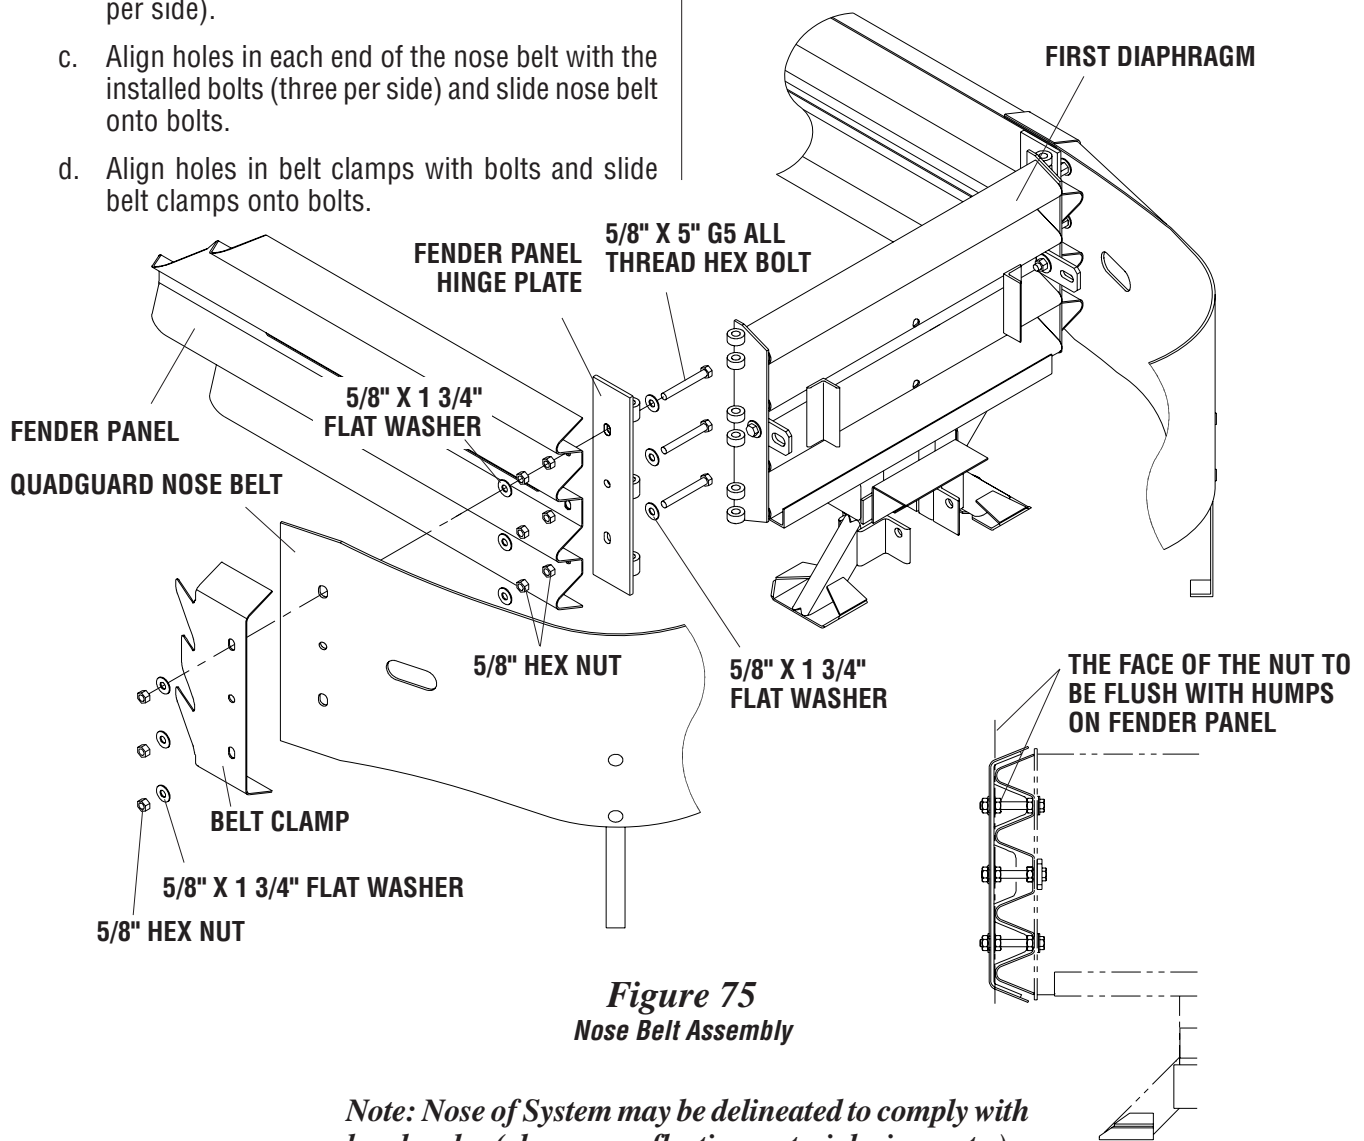

Figure 75
- Using 5/8" x 5" hex bolts, 5/8" x 1 3/4" flat washers and 5/8" hex nuts, attach hinge plate to fender panel as shown in Figure 75 (three places per side).